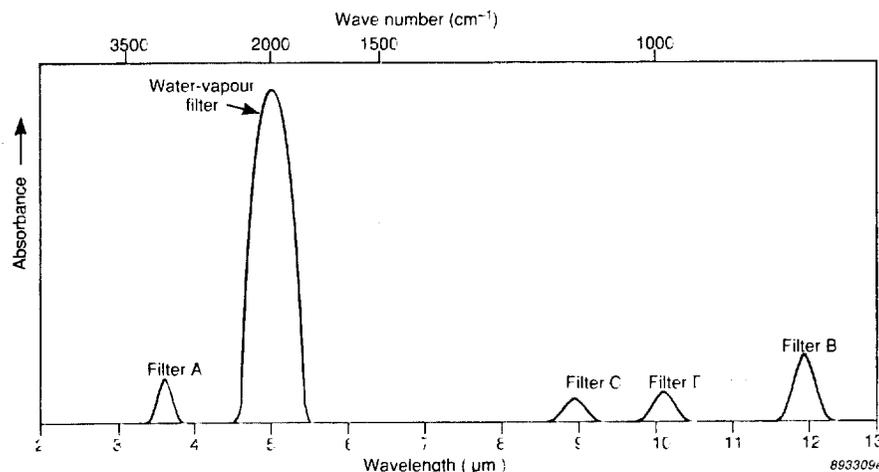

Fig. 16.2. Schematic diagram showing the relative absorption of water vapour by different optical filters
The water vapour in the cell absorbs light from the water-vapour filter and from the other installed filters, producing signals which are related to water-vapour's relative absorption of the light at the wavelengths transmitted by the different optical filters (see Fig. 16.2). We know, however, that the ratio of the signal measured with any one filter (e.g. "A") and the signal measured with the water-vapour filter is a constant. This ratio is related to the **Humidity Gain Factor** calculated during the humidity-interference calibration of filter "A". For example, if the signal produced by water vapour when using the water-vapour filter is $160\mu\text{V}$ and using Filter "A" is $16\mu\text{V}$, then, if the signal measured with the water-vapour filter is found to be $80\mu\text{V}$, we know that this concentration of water vapour will produce a signal of $8\mu\text{V}$ when Filter "A" is used. Measurements made during humidity-interference calibration of the installed filters therefore enable the 1302 to compensate any measured signal for water-vapour's interference.
1. The signal in the cell is measured using filter "A" and then filter "B" when a known concentration of gas A is in the analysis cell. The ratio of these two signals is directly related to gas A's relative absorption of light at these two wavelengths (upper spectrum in Fig. 16.2). This ratio is a constant and is a measure of **Gas A's Interference on filter "B"**.
2. The signal in the cell is measured using filter "A" and filter "B" when a known concentration of gas B is in the cell. The ratio of these two signals is directly related to gas B's relative absorption of light at these two wavelengths (lower spectrum in Fig. 16.2). This ratio is a constant and is a measure of **Gas B's Interference on filter "A"**.